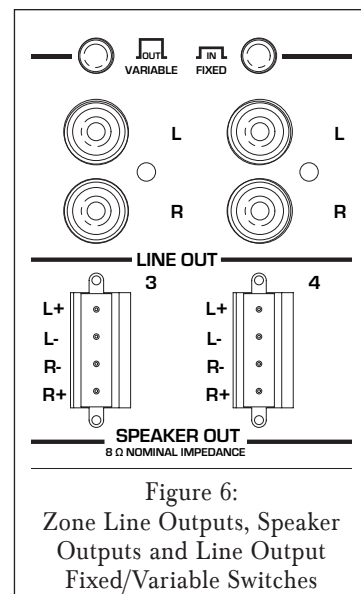

Figure 7:
2. Connect a stereo RCA cable from the appropriate Zone Line Outputs on the C4630 SE to the high-power amplifier's input connectors (see *Figure 7*, on page 14). The VARIABLE setting allows the zone's volume to be controlled by the C4630 SE via a keypad or a properly-programmed IR remote.